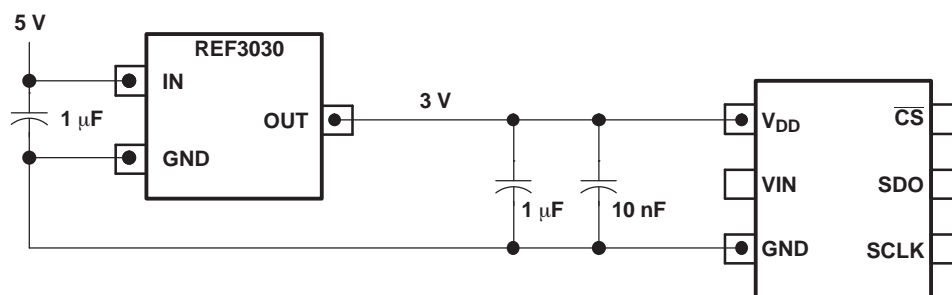

Figure 45. Using the REF3030 Reference
- A reference output from a low drift and low drop out reference voltage generator like REF3030 or REF3130. The ADS7884 and ADS7885 can operate off a wide range of supply voltages. The actual choice of the reference voltage generator would depend upon the system. Figure 45 shows one possible application circuit.